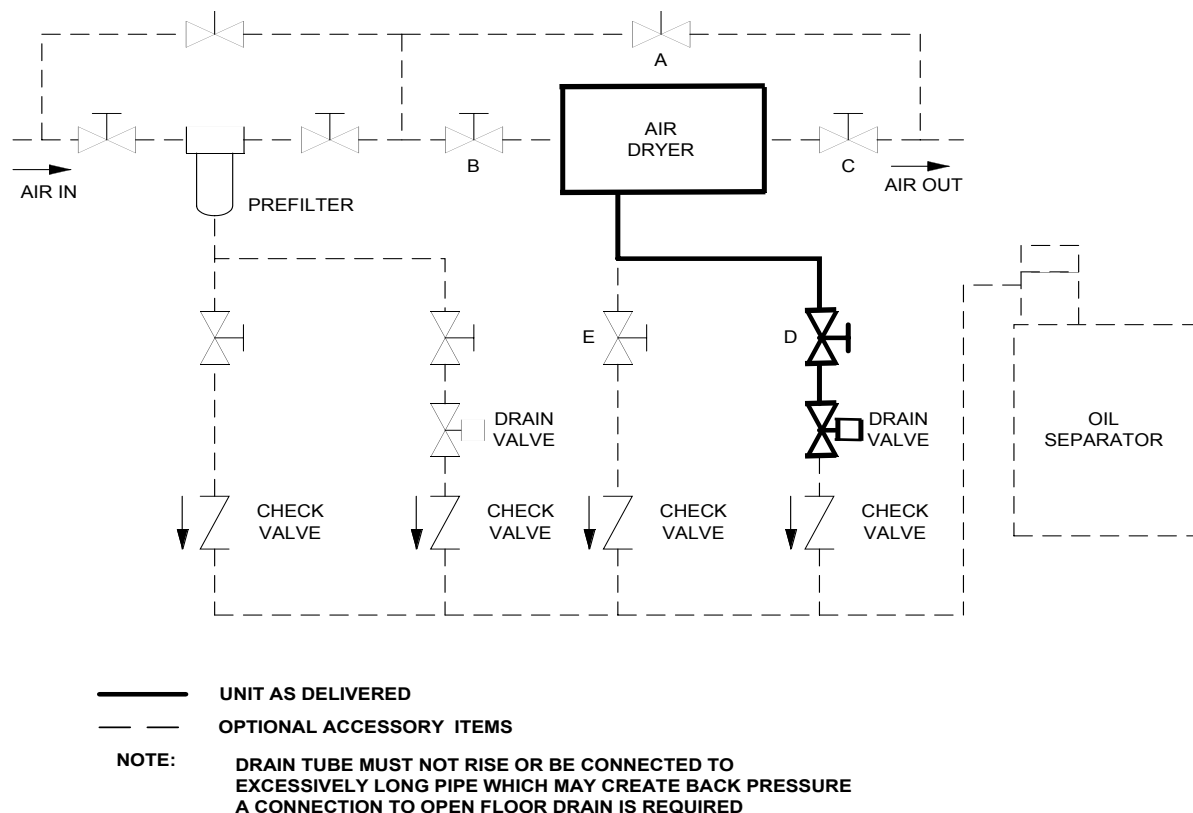

FIGURE 3
Install piping, fittings and accessories as required for specific site conditions and requirements. Figure 3 indicates a typical piping arrangement for a refrigerated dryer, including dryer and filter bypasses. This figure can be used as a guide for valve and accessory placement in the system.
ZEKS 500 - 800 HSF models come with a drain isolation valve (D) factory installed. The isolation valve permits maintenance of the automatic drain without isolating air flow to the dryer. To operate dryer, all valves shown in Figure 3 are to be closed except valves (B), (C) and (D). Valve (A) is used for bypass purposes and valve (E) is for test and manual drain purposes.